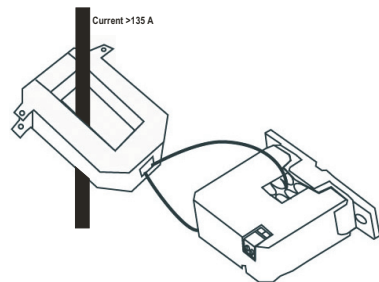

Figure 5: CSC with CT Transformer
Use a 5 A Current Transformer (CT) to reduce the current passing through the CSC as shown in Figure 5. Run the current transformer secondary wire through the sensing hole. Terminate the 2 secondary wires of the 5 A current transformer to each other, and then install the 5 A current transformer on the monitored conductor.